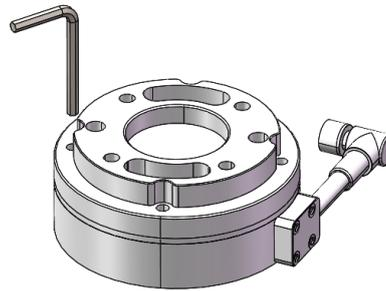

Figure 2-33 Loosen Embedded Screws Using a 3 mm Allen Key
- b. Separate the sensor from the mounting flange, and install the mounting flange to the robot. When the sensor leaves the factory, the mounting flange and the sensor are connected by six embedded hexagon socket screws. Use a 3 mm Allen key to loosen them, so as to separate the mounting flange from the sensor, as shown in Figure 2-33. Use $\phi 5$ positioning pins to position the mounting flange and the robot, and use four M6 embedded hexagon socket screws to fix them. Gradually tighten the screws according to the diagonal sequence to deliver uniform contact between the sensor and the robot or adapter tooling. The positioning pins make it easy to install and connect the device repeatedly, and they